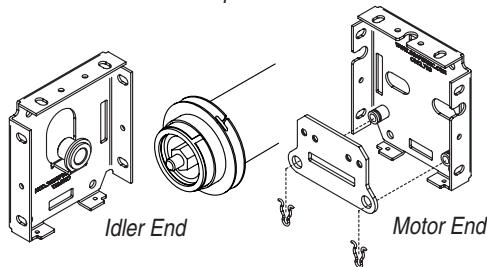

Figure 3
- ④ **For motorized units:** Remove the roller assembly from its headbox by first removing the retainer clips from the motor end of the roller. Then, compress the spring in the gudgeon by sliding the roller toward the idler end of the headbox, and pivot the motor end of the roller out of the box (see Fig. 3). Keep all retainer clips.